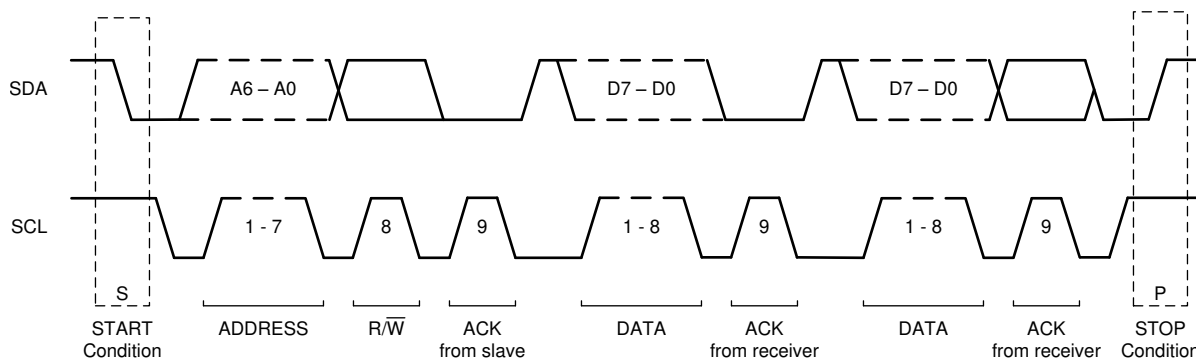

Figure 34. I²C Data Transfer Format
Figure 34 shows the format of the data transfer. The master initiates all transactions with the ADS1219 by generating a START (S) condition. A high-to-low transition on the SDA line while SCL is high defines a START condition. The bus is considered to be busy after the START condition.